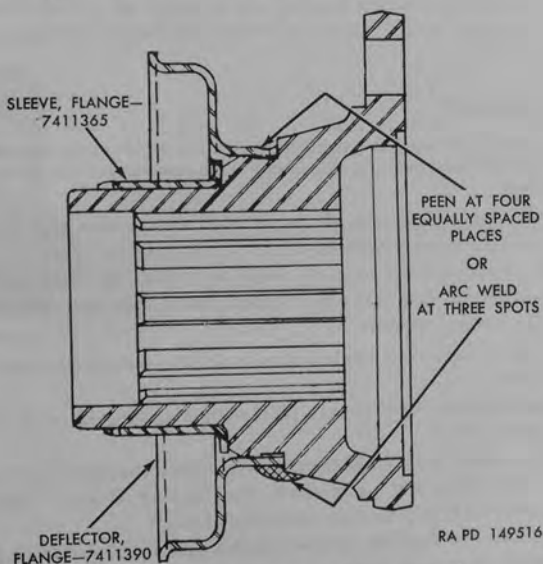

Figure 157. Sectional view of flange assembly.
- (a) *Oil seal sleeve replacement.*—Use ball peen hammer, and tap entire circumference of outer surface of flange sleeve (fig. 157). Peening of this surface will cause metal in sleeve to stretch until sleeve can be removed from flange. Install sleeve on flange using replacer 41-R-2395-528 (fig. 156).
- (b) *Deflector replacement.*—Deflector is pressed on flange as shown in figure 157. The deflector is either spot welded or peened in three or four places to flange. Remove old deflector. Install new deflector in place on flange. Peen or spot weld as shown in figure 157.